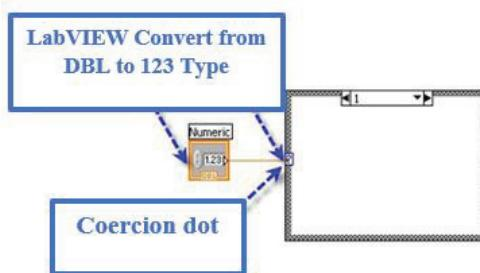

Figure 2.151: LabVIEW Conversion Type
- If a **Floating-Point** number is connected, LabVIEW converts the value to a valid I32 number and then selects the case based on the converted number, as shown in figure 2.151.